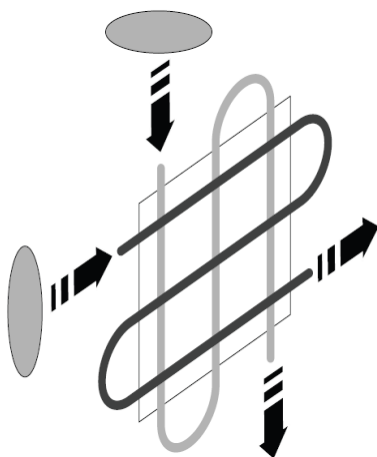

Fig. 5
- Move the sprayer smoothly along the entire surface, back and forth and up and down, as shown in Figure 5.